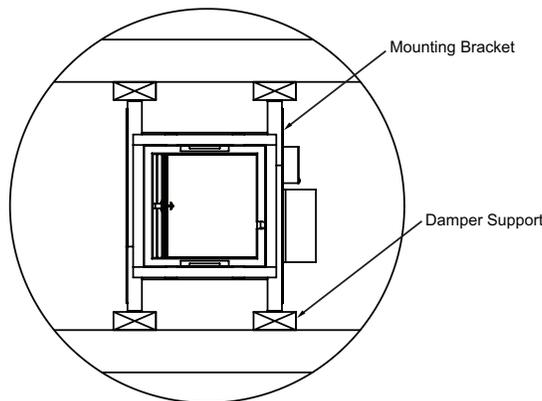

Figure 5
3. Prior to installing the damper/fan, damper supports need to be installed in the ceiling assembly (See Figure 1 and Figure 5). Four damper supports made from 2x4's cut to the truss height need to be installed, centered around the damper/fan location. The damper supports need to be spaced 11-9/16" (294) on center. The bottom of the damper supports must be flush with the bottom of the trusses. Each damper support must be fastened to the truss members with a minimum 2" (51) long #8 wood screws at a minimum of two places.